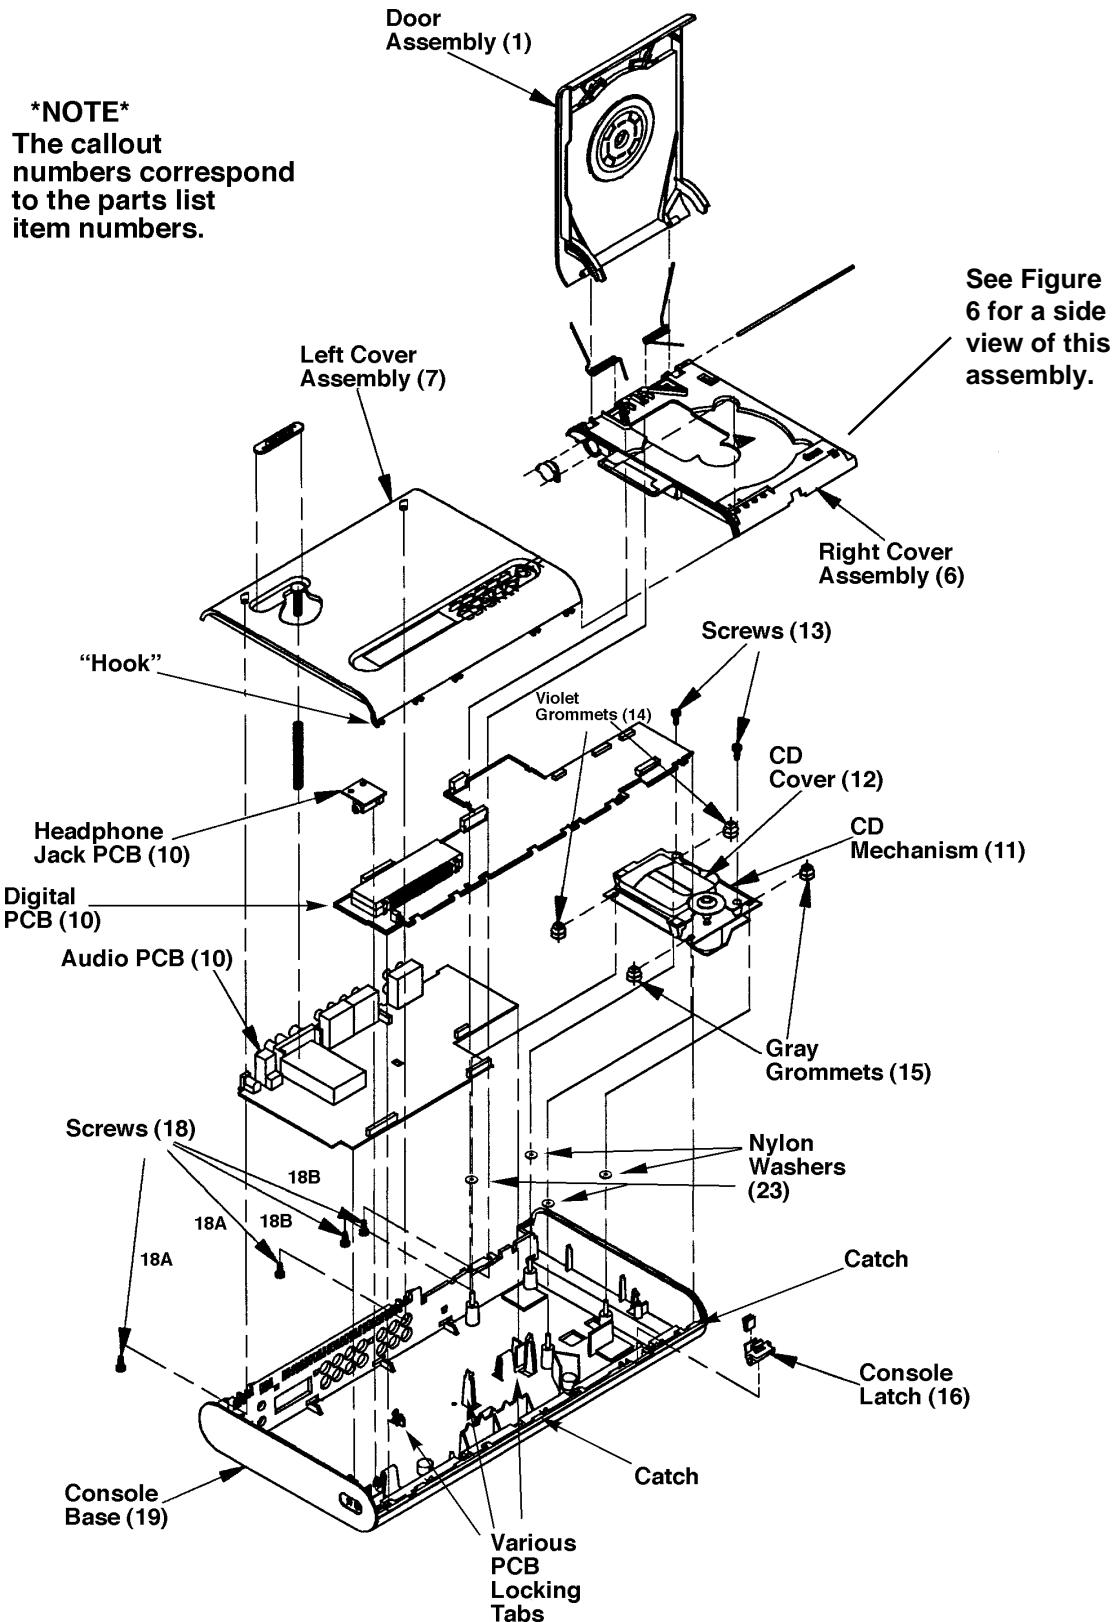
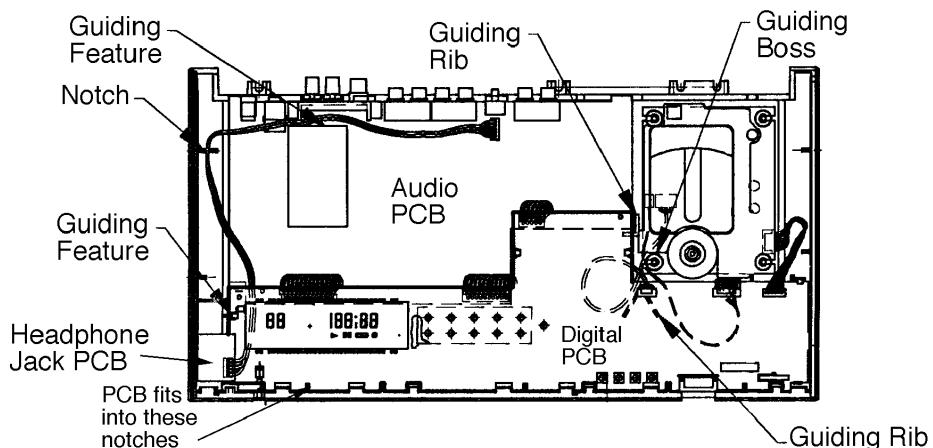

Figure 3. Labelled Exploded View
Figure 7. Base Assembly (top view with covers removed)
**Note:** Refer to Figures 3 and 5 for Procedures 1 and 2.
**1.1** Remove the two screws (18A) that secure the left cover (7) to the base (19).
**Note:** Refer to Figures 3, 5 and 6 for Procedures 3 and 4.
**Note:** Refer to Figures 3, 4 and 7 for Procedures 5 and 6.
<p>5.5 Slide the violet (14) and gray (15) grommets away from the slots in each corner of the mechanism.</p> <p>5.6 Remove the two screws (13) that secure the cover (12) to the mechanism. Unsnap the cover from the mechanism.</p> <p>6. CD Mechanism Replacement</p> <p>6.1 Snap the cover (12) into position. Align the screw holes and replace the two screws (13) that secure the cover to the mechanism (11).</p> <p>6.2 Slide the violet (14) and gray (15) grommets into their respective slots on each corner of the mechanism. See Figure 3 for their proper locations.</p> <p>6.3 Connect the 6 pin connector to the PCB that is connected to the motors and the 5 pin (with black cable) and 8 pin connectors to the APC PCB.</p> <p>6.4 Remove the solder from the shorted points shown in Figure 4.</p> <p>Note: Make sure that four nylon washers (23) are mounted on the posts before installing the mechanism (later models only).</p> <p>Note: The CD mechanism wires must be routed correctly (see Figure 7) for proper CD operation. A sign of improper routing is a clicking noise when playing tracks at the outermost edge of the CD. Perform the CD Final Verification tests on page 31 to ensure proper operation.</p> <p>6.5 Place the mechanism on the four metal posts located in the base (19). Position as shown in Figure 3.</p> <p>6.6 Replace the door/right cover assembly (Procedure 4) and left cover assembly (Procedure 2).</p> <p>7. Digital PCB Removal</p> <p>Note: Refer to Figures 3 and 7 for Procedures 7 and 8.</p>	<p>7.1 Remove the left cover assembly (Procedure 1) and the right cover/door assembly (Procedure 3).</p> <p>7.2 Lift up the CD mechanism (11) and move it aside. Keep the mechanism connected to the PCB unless removal is required. See Procedure 5 for removal procedure.</p> <p>7.3 There are four black plastic tabs that hold the PCB (10) in position. See Figure 3. Flex them carefully outward and pull the PCB up and out.</p> <p>7.4 Remove any connections required to troubleshoot the PCB.</p> <p>8. Digital PCB Replacement</p> <p>8.1 Replace any connections that were disconnected during troubleshooting.</p> <p>8.2 Slide the PCB (10) into position. There are notches in the PCB which mate with notches in the base (19). See Figure 7.</p> <p>8.3 Snap the PCB carefully down under the four locking tabs.</p> <p>8.4 Push the CD mechanism (11) down onto the four metal posts.</p> <p>8.5 Replace the right cover/door assembly (Procedure 4) and the left cover assembly (Procedure 2).</p> <p>9. Audio PCB Removal</p> <p>Note: Refer to Figures 3 and 7 for Procedures 9 and 10.</p> <p>9.1 Remove the left cover assembly (Procedure 1), the door/right cover assembly (Procedure 3), and the Digital PCB (Procedure 7).</p> <p>9.2 There are four locking tabs (three on the PCB edges and one in the middle of the PCB) that secure the PCB (10) to the base (19). Flex the tabs carefully away from the PCB and disengage the PCB.</p>
**Note:** Make sure that the connections to the Headphone Jack PCB (10) are routed through the guiding notch on the side of the console (see Figure 7).
**10.3** Snap the PCB (10) carefully down under the four locking tabs. Make sure that the CD mechanism connections are routed properly. See Figure 7 and procedure 6 note.
**Note:** Refer to Figures 3 and 7 for Procedures 11 and 12.